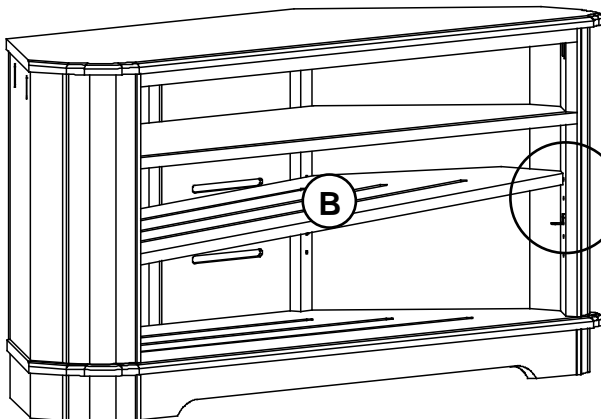

Fig. 4
- To move the Adjustable Shelf (B), remove the #6 x 1/2" Undercut Screws (L) and the Shelf (B). Reposition the Shelf Brackets (ZA) to the desired positions, replace the shelf and insert the screws. See Figures 4 and 4a.